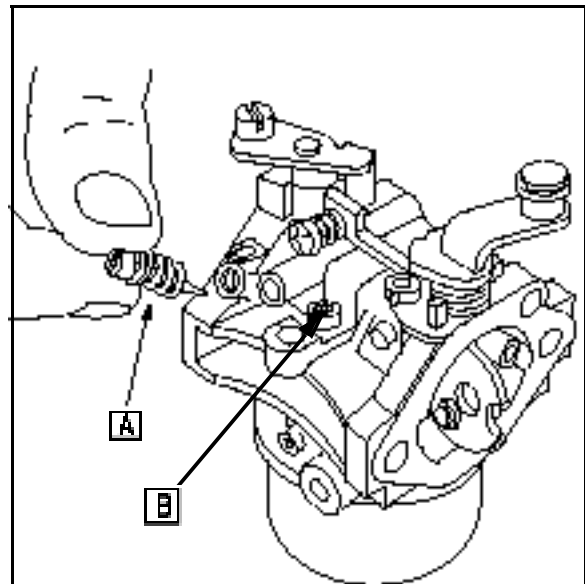

Fig. 55
6. Pry off the idle mixture valve limiter (if used). Remove the idle mixture screw and spring from carburetor body (A) Fig. 55).
7. Remove pilot jet (B) Fig. 55) with Jet Screwdriver #19062.